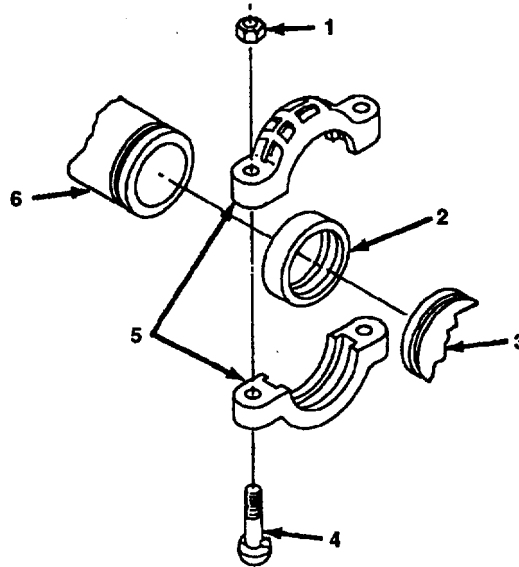

Figure 2-12. Grooved Pipe Coupling.
2.3.2 Grooved Pipe Coupling Removal and Installation . Remove and install grooved pipe coupling (Figure 2-12) as follows:
- a. Disassemble grooved pipe coupling by removing two nuts (Figure 2-12, 1), bolts (4), coupling halves (5), and gasket (2).
- b. Check gasket (2) for damage. If gasket (2) is damaged, replace it.
- a. Apply thin coat of non-petroleum silicone lubricant (item 5, appendix E) to gasket lips and outside of gasket (2).